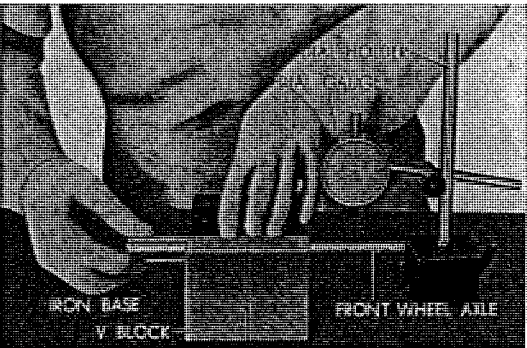

Fig. 4.73 Measuring front axle bend
2. Measuring outside diameter bend of the front axle. (Refer to Fig. 4.73)